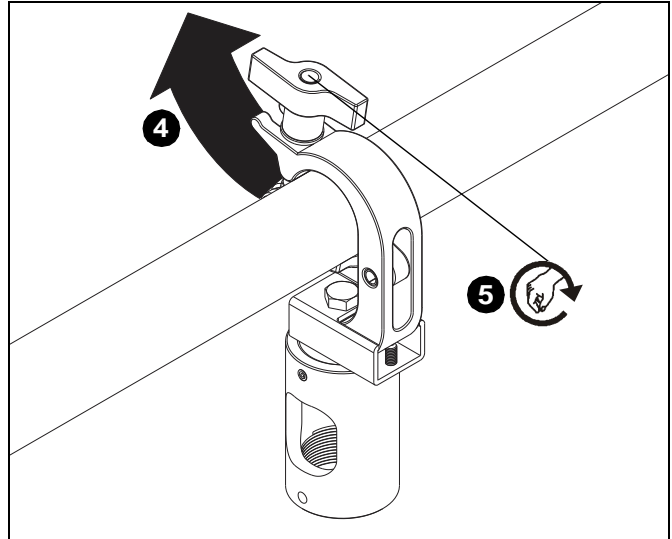

Figure 3
4. Pull lower part of clamp up to its original position. (See Figure 3)
5. Tighten knob until clamp is securely installed to pipe or truss. (See Figure 3)